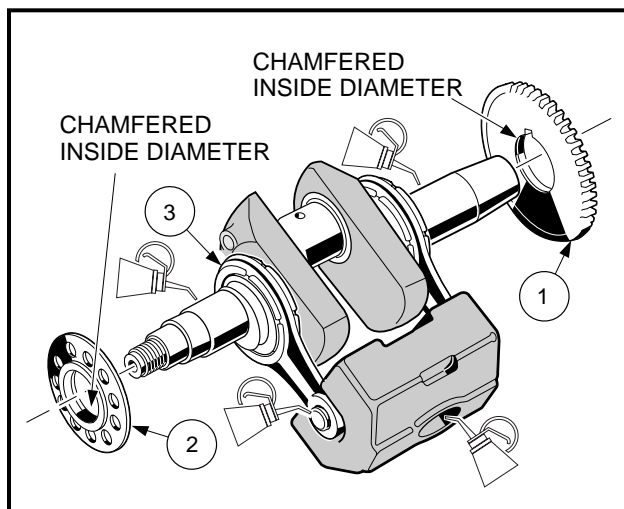

Figure 13-94 Crankshaft Assembly
- WHEN REASSEMBLING THE CRANKSHAFT AND THE COUNTERBALANCE WEIGHT, APPLY A LIGHT FILM OF ENGINE OIL TO THE CRANKSHAFT JOURNALS AND GUIDE SHAFT (**FIGURE 13-94, PAGE 13-42**).